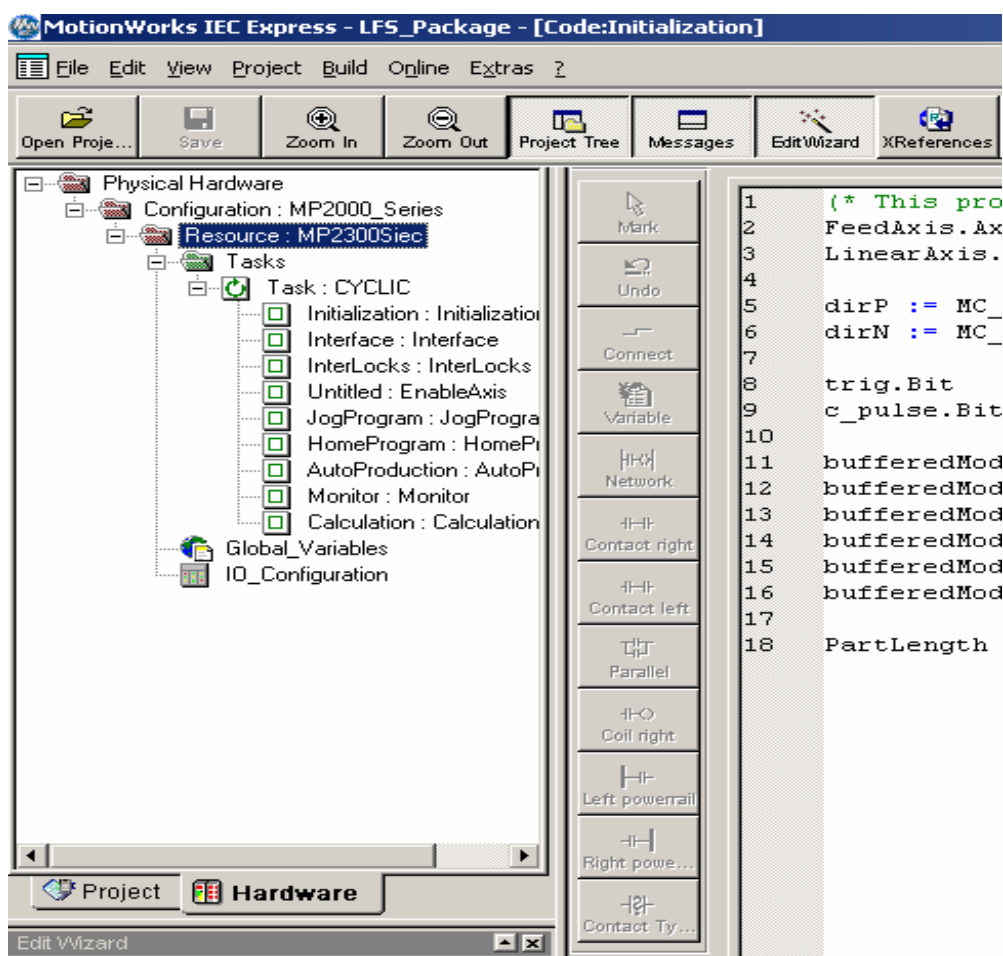

Figure 1: Setting IP address
- I. Go to the 'Hardware' tab. (Fig 1)
- II. Right click 'Resource: MP2300Siec' (Fig 1)